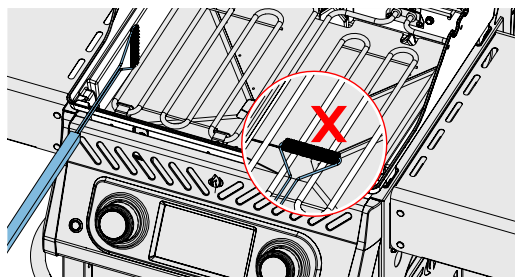

Fig. 7
2. Use a soft brass wire brush to clean loose debris. Brush all debris from inside the appliance into the removable drip pan. **DO NOT** use the brush on the electric burners. (Fig. 7)